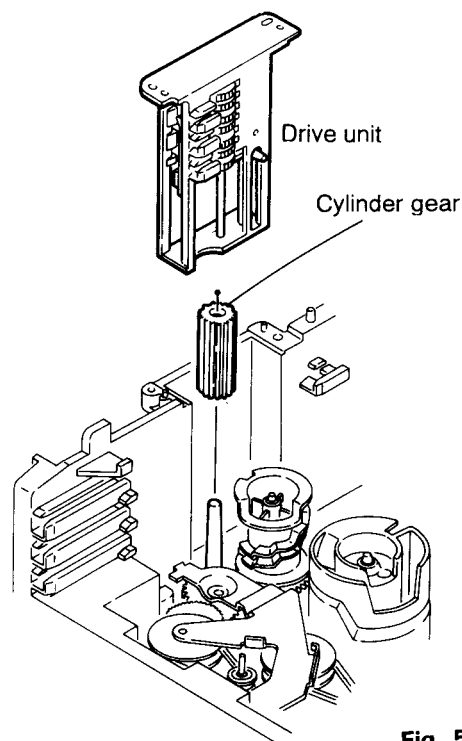

Fig. 5-46
3. Pull out the drive unit and cylinder gear (See Fig. 5-46).